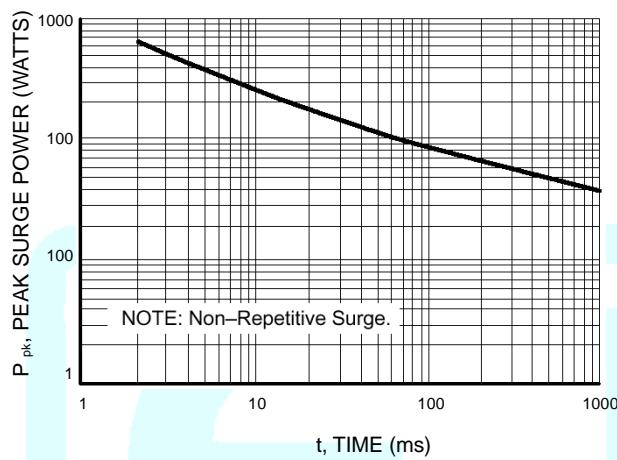
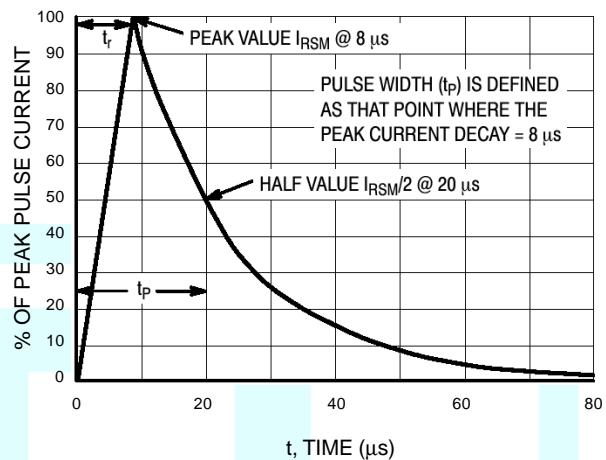

Figure 1. Pulse Width
Figure 2. $8 \times 20 \mu\text{s}$ Pulse Waveform
1. Non-repetitive current per Figure 1. Derate per Figure 2.